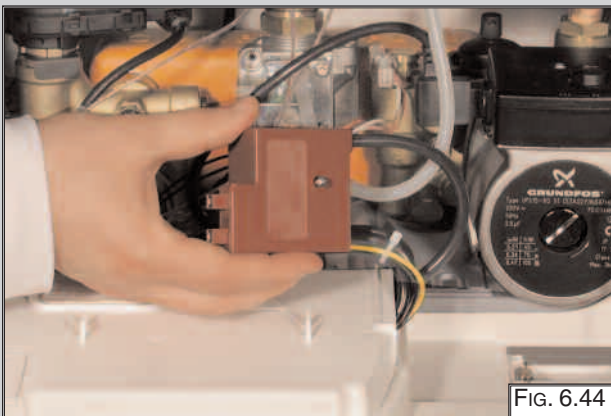

FIG. 6.44
3. Remove the spark generator by pulling forward from the gas valve (FIG. 6.44).